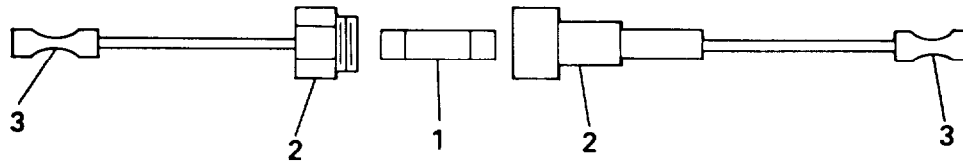
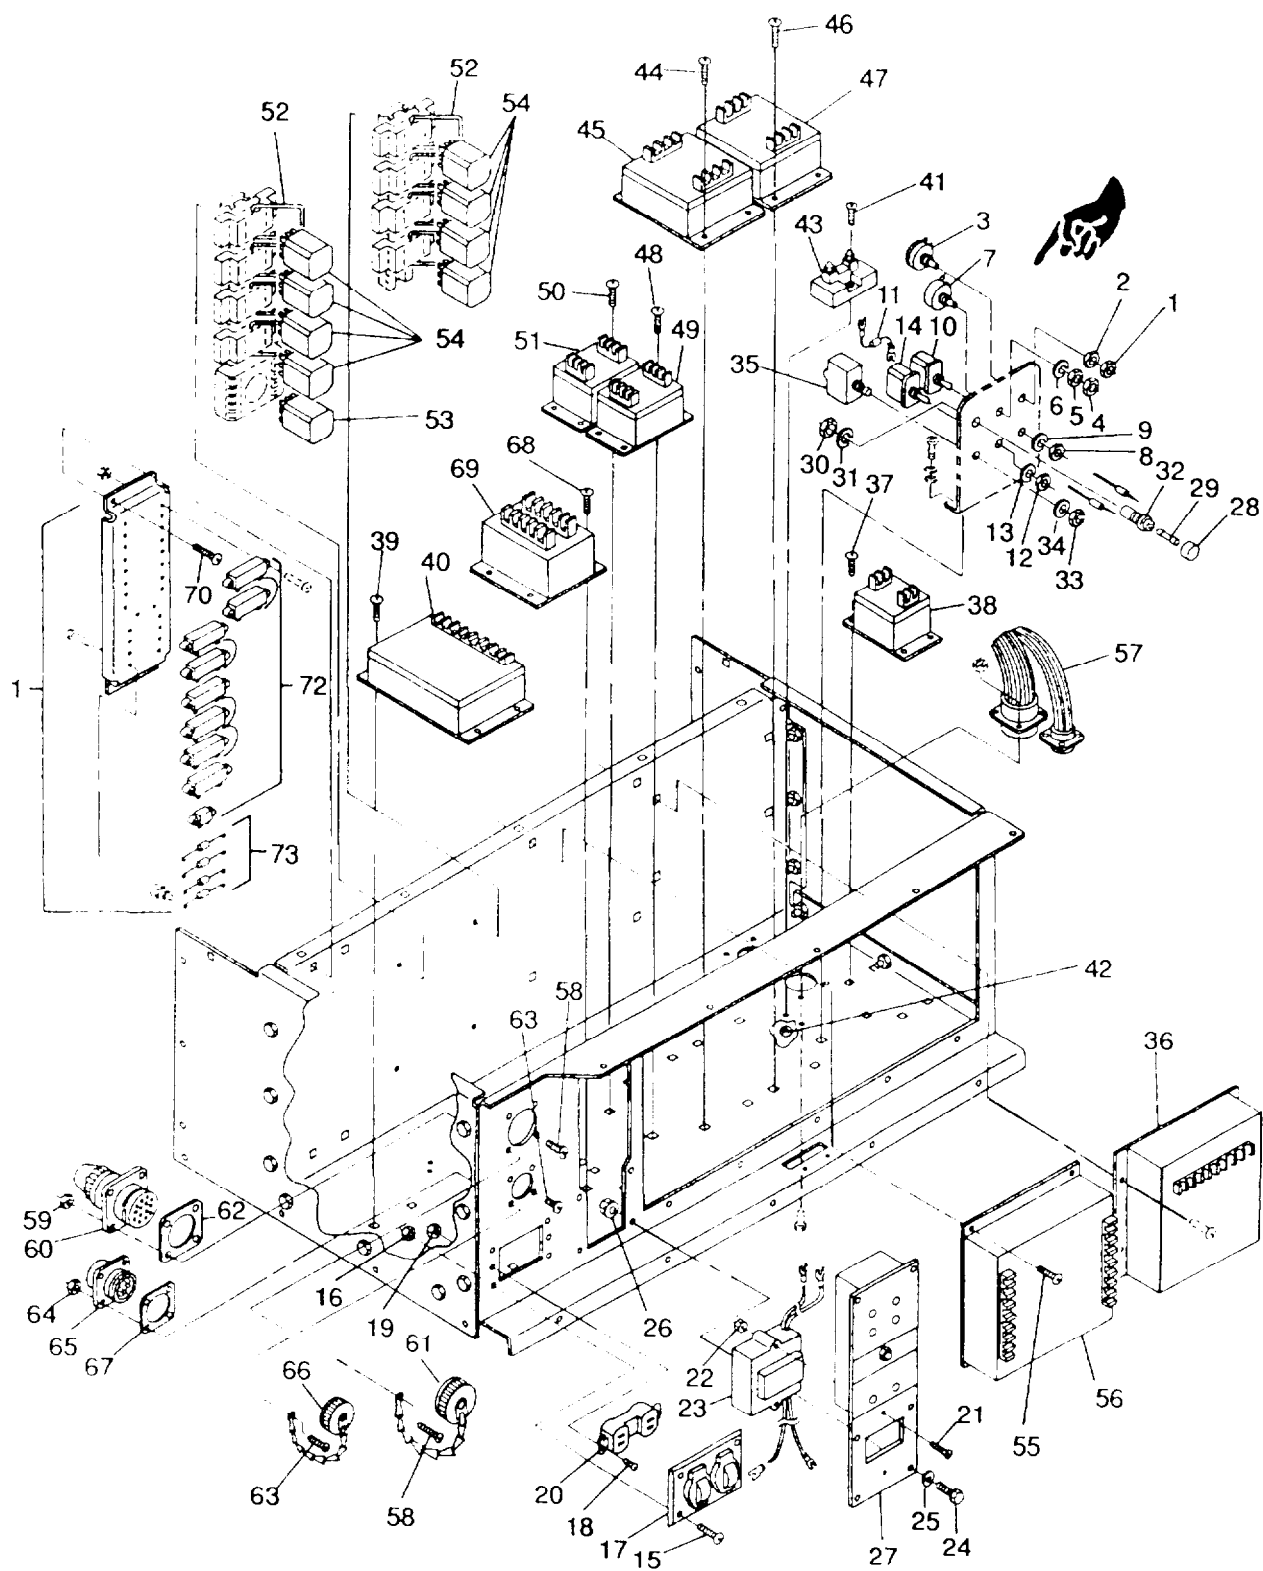

FIGURE 2-13.1. In-Line Fuse Installation
FIGURE 2-14. Control Box Components
- c. Remove malfunction indicator panel screws (24, FIGURE 2-14), washers (29), and nuts (26). Lay malfunction indicator panel to the side.
- d. Cut black wire on load side of GROUND FAULT CIRCUIT INTERRUPTER (23).
- e. Strip wires on in-line fuse holder (2, FIGURE 2-13.1) and install butt splices (3) at each end. Connect ends of black wire to in-line fuse holder butt splices (3).
- f. Install fuse (1) in fuse holder (2)
- h. Install malfunction indicator panel (27, FIGURE 2-14), screws (24), washers (25), and nuts (26)
- a. Install GROUND FAULT CIRCUIT INTERRUPTER (23, FIGURE 2-14) in malfunction indicator panel with screws (21) and nuts (22).
- b. Connect electrical leads to TB4 and KS, and convenience receptacle (20). Remove tags.
- e. Disconnect multi-pin connector at rear of malfunction indicator panel (27, FIGURE 2-14).
- f. Remove bolts (24), washers (25), and nuts (26).
- g. Remove malfunction indicator panel (27) from control panel.
- a. Install malfunction indicator panel (27, FIGURE 2-14) in control panel with bolts (24), washers (25), and nuts (26.)
- d. Remove cap (28, FIGURE 2-14) and fuse (29) from fuse holder (32)
- e. Tag and unsolder electrical leads from fuse holder (32).
- f. Remove nut (30), lockwasher (31), and fuse holder (32).
- d. Tag and disconnect DC CONTROL POWER circuit breaker (35, FIGURE 2-14) electrical leads.
- i. Connect electrical leads to circuit breaker (35) and remove tags.
- d. Remove nut (33, FIGURE 2-14) and flatwasher (34).
- e. Remove DC CONTROL POWER circuit breaker (35) from mounting bracket.
- f. Tag and disconnect DC CONTROL POWER circuit breaker (35) electrical leads.
- b. Insert DC CONTROL POWER circuit breaker (35, FIGURE 2-14) into mounting bracket.
- c. Install flatwasher (34) and nut (33).
Inspect AC voltage regulator (36, FIGURE 2-14) for cracked case, broken wires, security, and other damage.
- d. Tag and disconnect frequency transducer (38, FIGURE 2-14) electrical leads.
- e. Remove screws (37) and frequency transducer (38).
- a. Install frequency transducer (38, FIGURE 2-14) with screws (37).
- d. Tag and disconnect kilowatt transducer (40, FIGURE 2-14) electrical leads.
- e. Remove screws (39) and kilowatt transducer (40).
- a. Install kilowatt transducer (40, FIGURE 2-14) with screws (39).
- c. Tag and disconnect shunt (43, FIGURE 2-14) electrical leads.
- f. If no repair is needed, connect electrical leads to shunt (43) and remove tags.